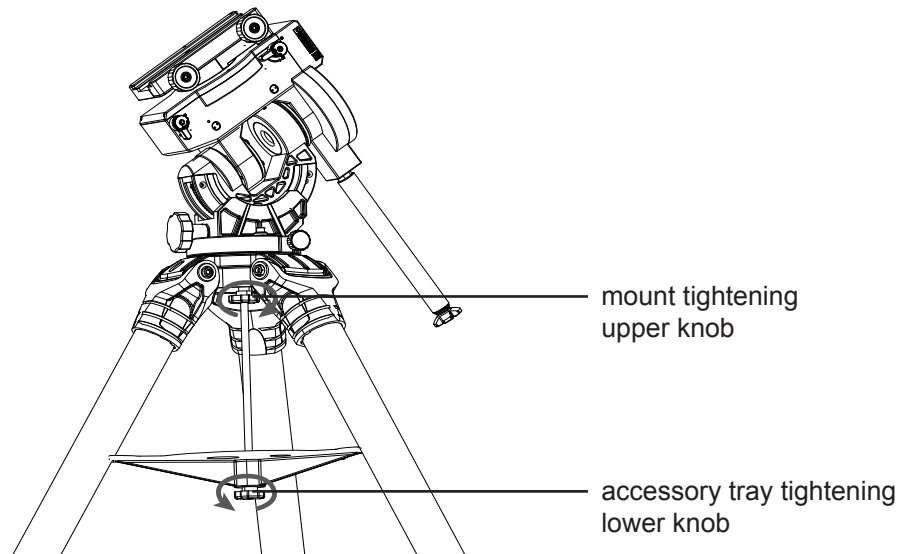

Fig. 1.2c
- Engage the tripod central rod in the CQ350-PRO mount by turning the tripod upper knob. Turn the knob until it is moderately tightened (\*) (Fig 1.2c) If necessary, re-adjust the tripod legs using the bubble level on the mount as a reference.
Tighten the lower knob (Fig 1.2c).